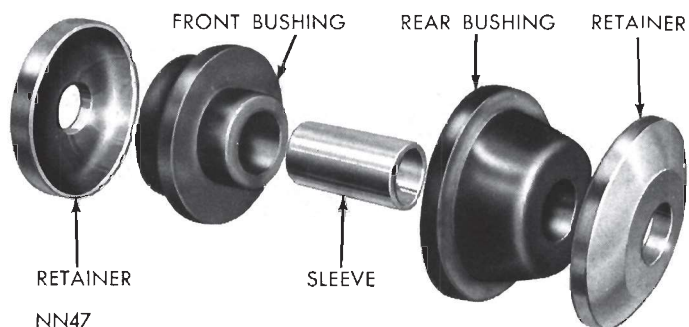

Fig. 17—Strut Crossmember Bushings (Satellite)
(8) Remove nut and washer from lower control arm shaft.
(9) Tap end of lower control arm shaft with a "soft end" hammer to aid in removal of shaft from crossmember.
(10) Remove lower control arm, shaft and strut as an assembly.
(11) Remove strut bushing from crossmember only if damaged. All models (except Valiant) use a two piece bushing and sleeve arrangement (Figs. 17 and 18).
(1) Remove lower control arm, shaft and strut as an assembly.
(2) Remove nut holding strut to lower control arm and remove strut from control arm.
(3) Inspect strut bushings (Figs. 17 and 18). If bushings are worn or deteriorated, install new bushings.